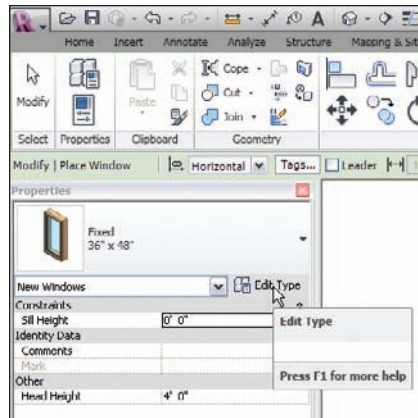

FIGURE 2.80 The Edit Type button in the Properties dialog
2. In the Properties dialog, click the Edit Type button, as shown in Figure 2.80.